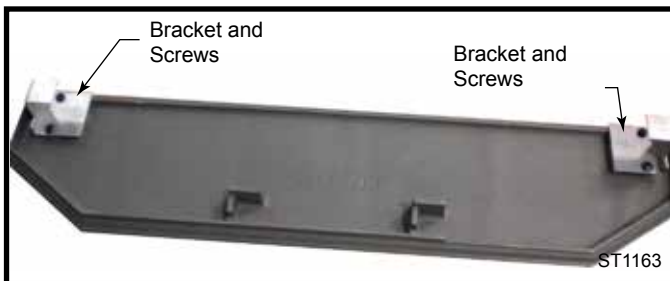
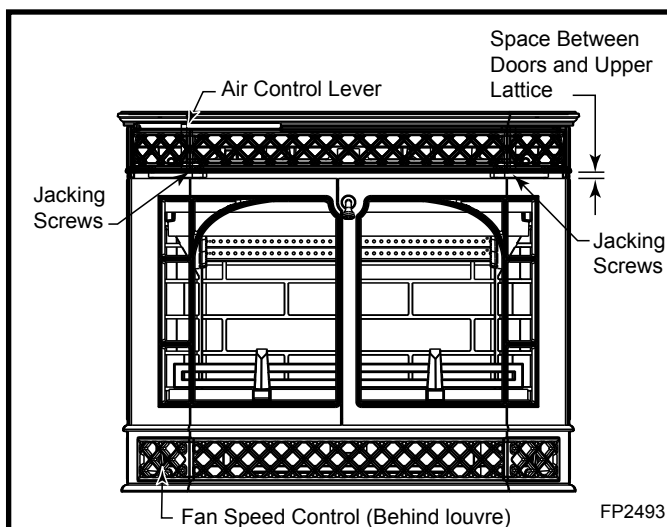

Fig. 8 Secure bracket to mantel with two (2) Philips screws.
Fig. 9 Merrimack Large Insert controls.
4. Route the blower power cord. Run the power cord out the left or right side of the insert. Remove the two (2) louvre doors (Fig. 9) or access doors. Remove the screw and washer from each side holding the ashlip to the front. If you run the power cord out the left side, remove the two (2) screws holding the rheostat bracket to the fan housing. Insert grommet nearest fan in the slot on the fan housing, left or right side. Reattach rheostat bracket with the two (2) screws removed earlier. Remove the cover plate and insert the provided grommet into the slot. Reattach the cover plate.
5. Install Mantel and Access Door. For enamel units: Remove the prepackaged mantel and install the two (2) brackets to the underside of the mantel using four (4) $\frac{1}{4}$ -20 x $\frac{3}{8}$ " Phillips head black screws already installed in the mantel. (Fig. 8) The brackets can be found in the stove. Remove the screws and use to attach the brackets. For classic black units: Remove the tie strap holding the mantel in place. The brackets are already attached to the mantel. Unwrap the two (2) pre-assembled access doors and snap into place. If the spacing between the doors and upper lattice is not even, you can pull the doors mantel off and adjust the upper lattice. Screw the two (2) jacking screws that contact the front up or down as needed. (Fig. 9)
All Merrimack Large Insert controls are conveniently located on the front. (Fig. 9)
Figure 9 shows the automatic setback control. Move the primary air control lever all the way to the left. Push the primary control about one more inch to the left to open the air shutter (the lever will spring back automatically when released). The shutter will remain open only if the stove is below its proper operating temperature. Once open, the primary air control lever may be adjusted to any desired position. Once the stove heats up to its proper operating temperature, you will hear a clicking sound confirming the shutter has closed. This returns the stove to the output setting of the primary air control.